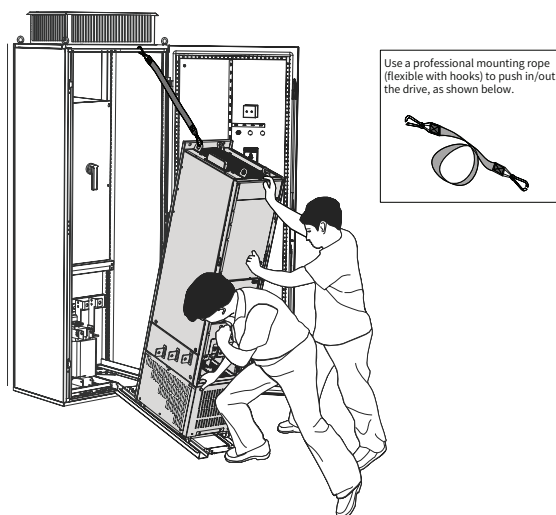
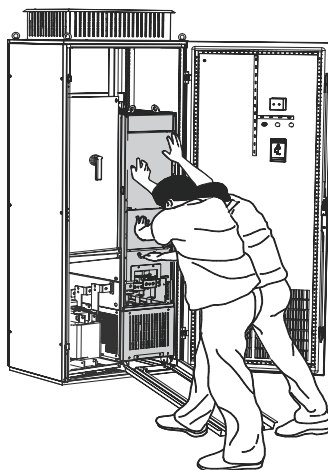

Figure 2-18 Slowly pushing the drive into the cabinet
Figure 2-19 Drive pushed into the cabinet
- ◆ Align the casters to the guide rail. The drive must be pushed in or pulled out by at least two persons, as shown in Figure 2-18 and Figure 2-19.
5	Align casters of the AC drive with the guide rail and push the drive into the cabinet slowly, as shown in Figure 2-18 and Figure 2-19. Use auxiliary strap during push-in and pull-out to prevent turnover. Such operation must be performed by at least two persons.